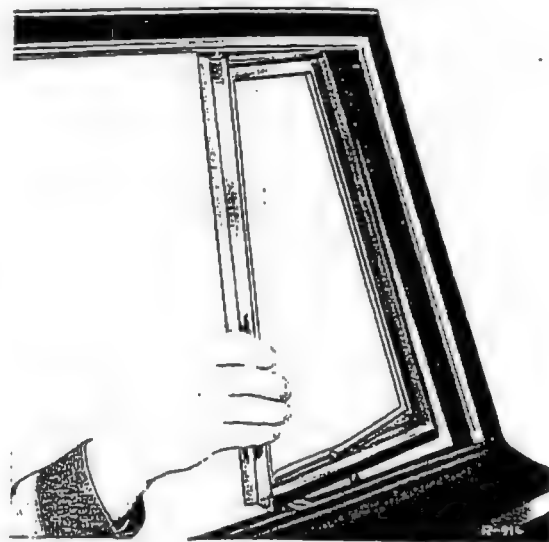

Fig. 72-13/2
6. Unscrew the fixing screws (3) and (4).
7. Unscrew the two top fixing screws (2) (see Fig. 72-13/1) and take out the ventilator together with the ventilator frame (Fig. 72-13/2).